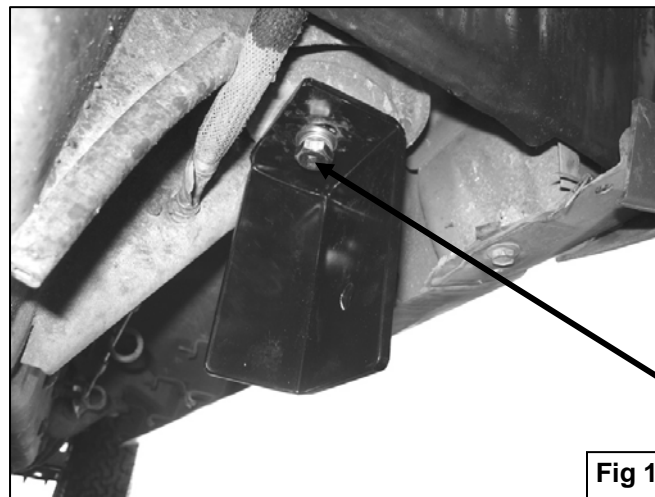

Fig 1
3. Partially attach driver side front Mounting Bracket to body mount using the included (1) 12-1.75mm x 120mm Hex Head Bolts, (1) 12mm Lock Washer, and (1) 12mm Hex Nut **(Figure 1)**.